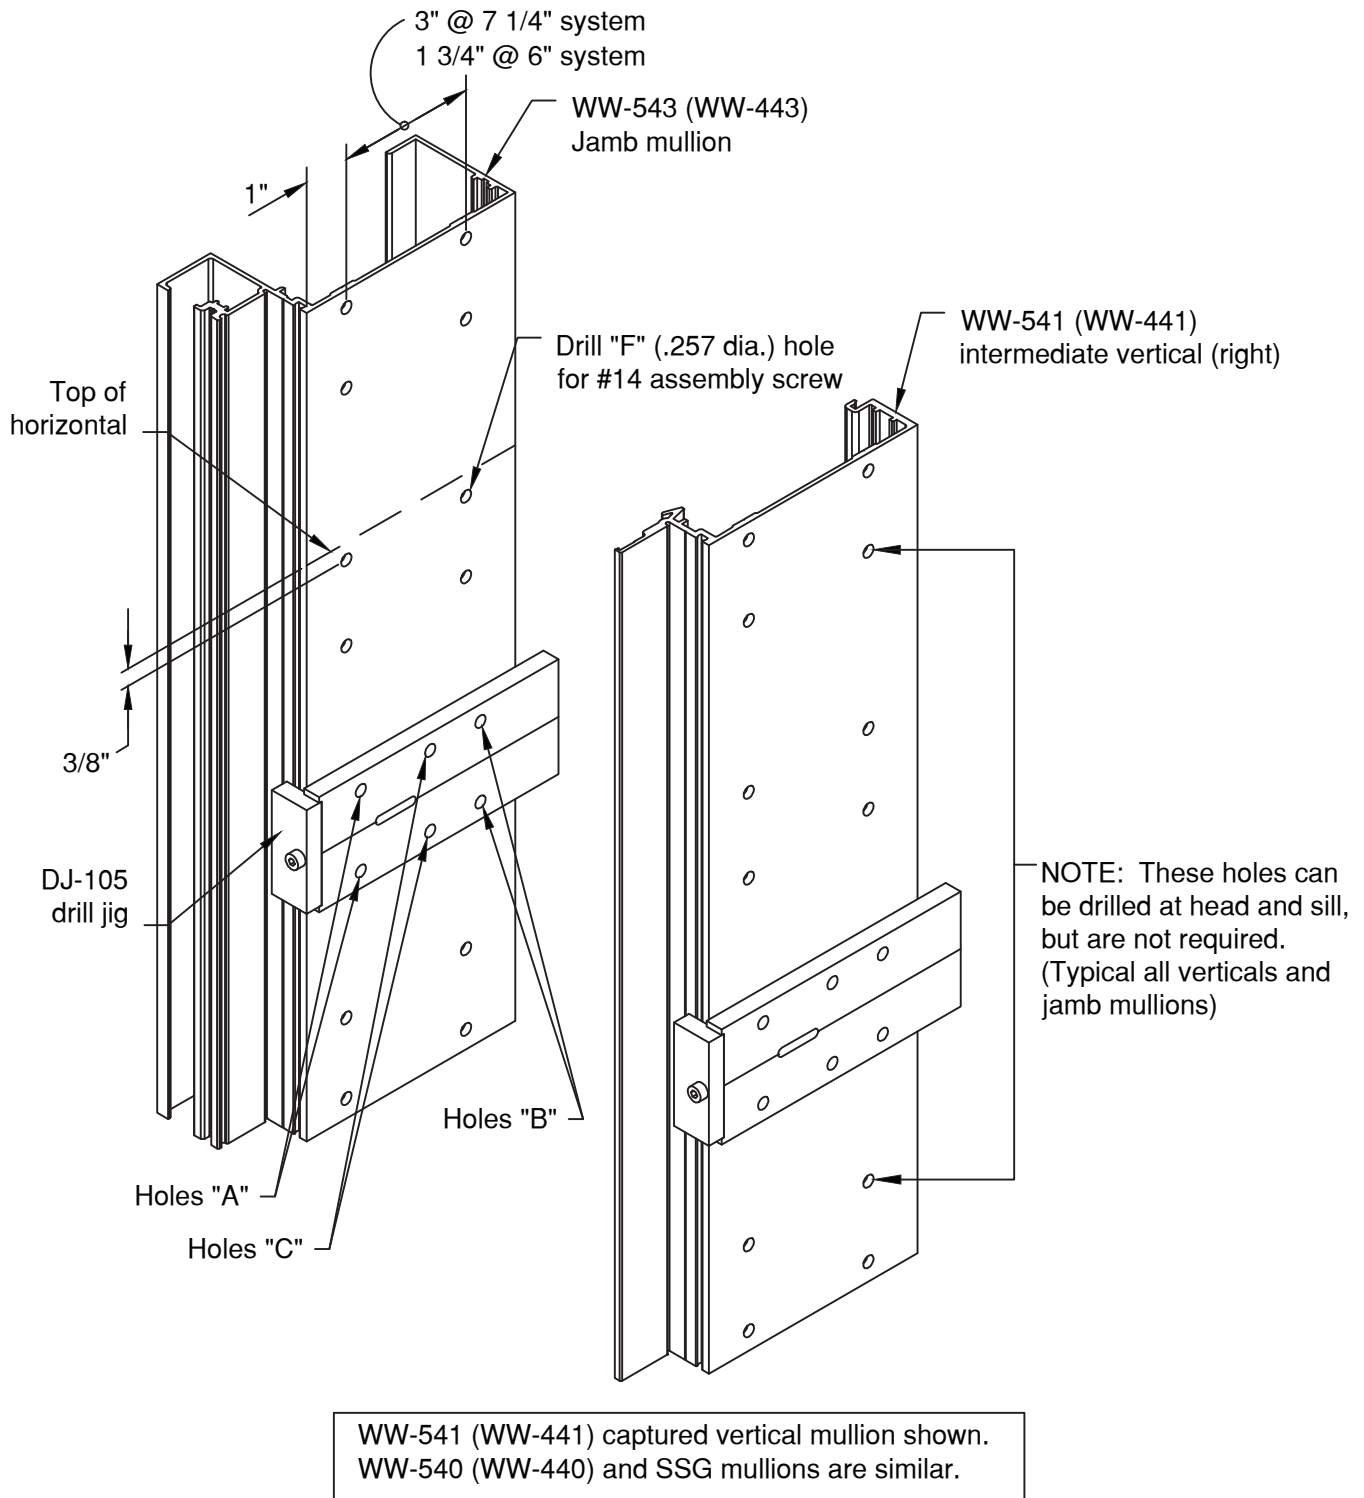
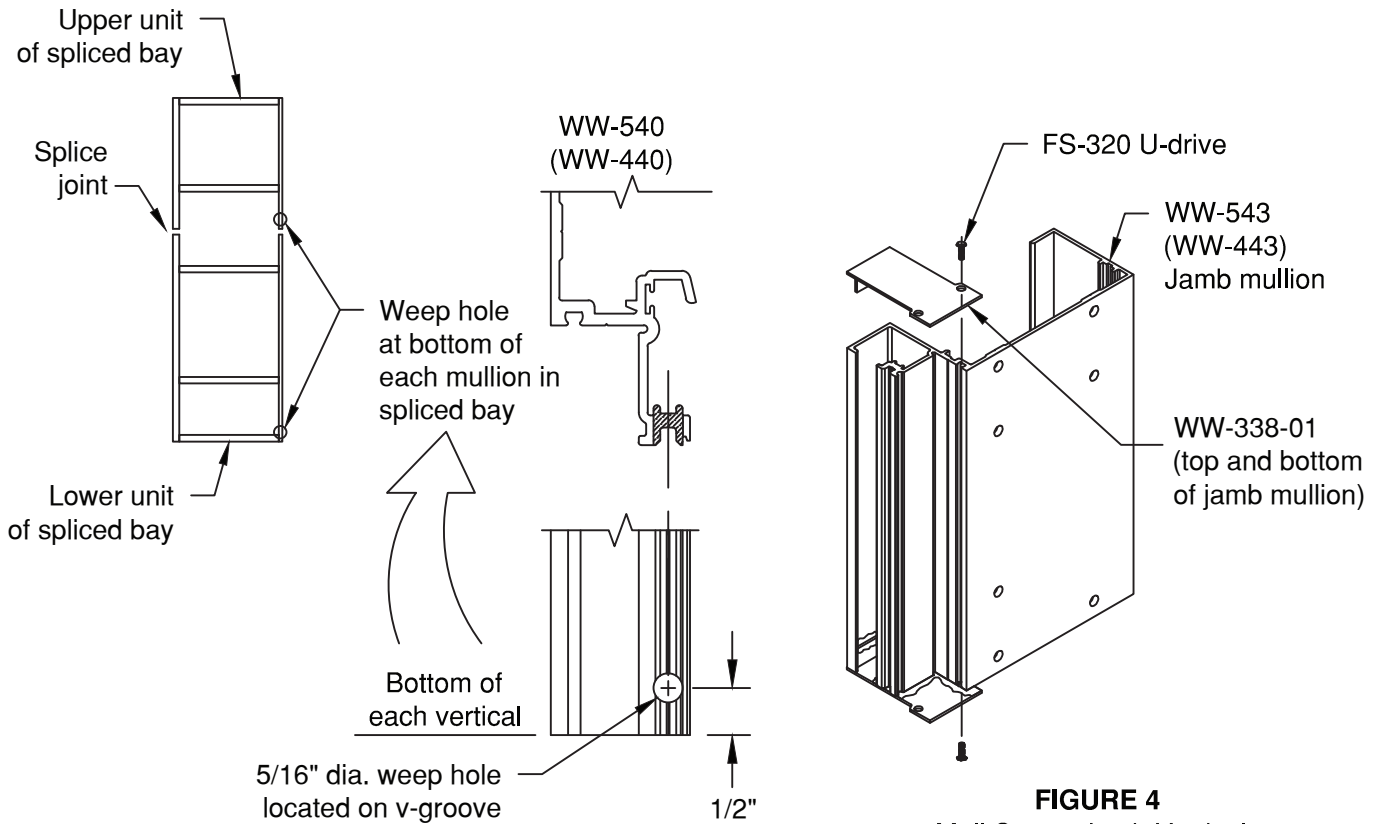

FIGURE 2
FIGURE 3
- 1.3 Fabricate vertical mullions for horizontal members with EZ Punch tooling or DJ-105 drill jig. When using the drill jig, drill holes 'A' and 'B' for the 7 1/4" system and 'A' and 'C' for the 6" system. Use 'F' drill (.257 dia.) for assembly screws. Drill all four holes. **SEE FIGURE 2, page 6.** When working from horizontal centerlines, align the slot milled into the drill jig with the centerline. Drill (1) 5/16" diameter weep hole at face of captured mullions, 1/2" from the bottom of each mullion. **SEE FIGURE 3, page 7.**